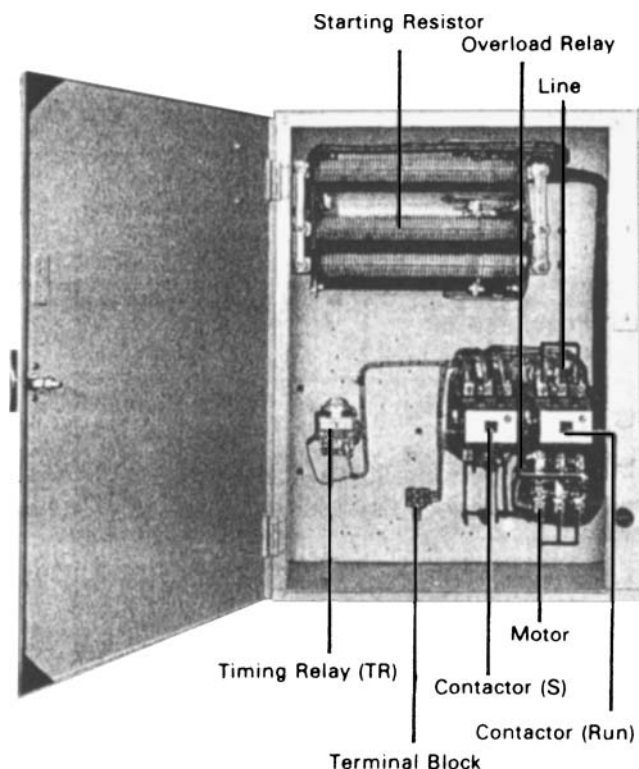
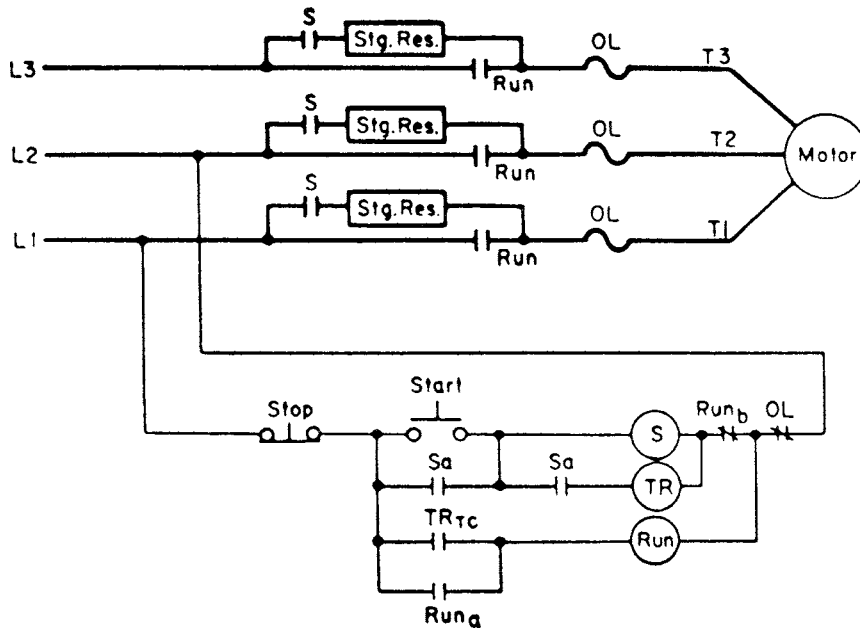

Fig. 5-35 Primary resistor type of magnetic starter. (Westinghouse)
Fig. 5-36 Wiring diagram for a primary resistor type starter. (Westinghouse)
Operation Figure 5-35 is the reduced-voltage magnetic starter that uses resistors to operate a three-phase motor properly at start. Closing the START button or other pilot device energizes the start contactor (S) shown in Fig. 5-36. This connects the motor in series with the starting resistors for a reduced-voltage start. The contactor (S) is now sealed in through its interlock (Sa). Timing relay (TR) is energized, and after a preset time interval its contacts (TR_{TC}) close. This energizes the run contactor, RUN, which seals through its interlock (RUN_a). The contacts (RUN) close, bypassing the starting